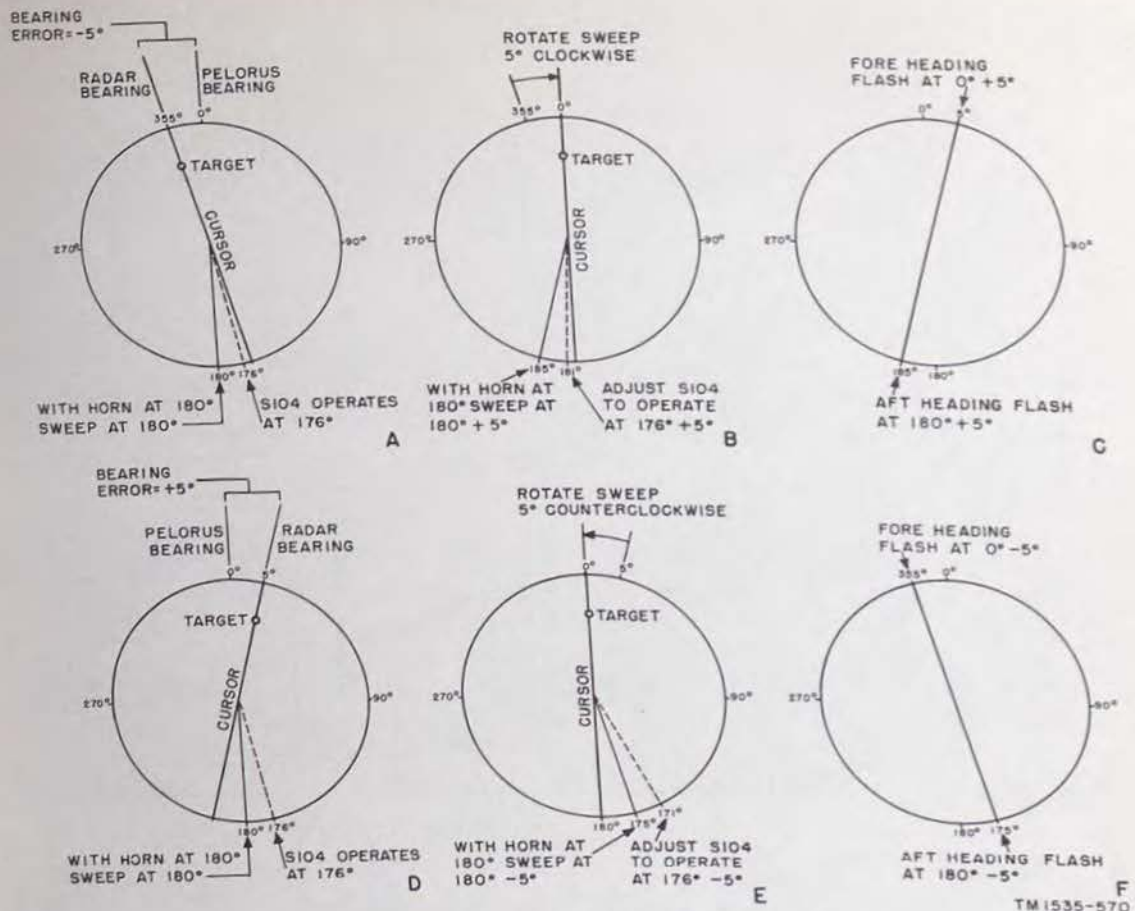

Figure 164. Picture bearing adjustment.
(fig. 164)
*Note.* Though the radar bearing be incorrect, S104 still operates at  $176^\circ$ , and the antenna horn and the PPI sweep are alined at the  $180^\circ$  point (A and D, fig. 164).
*i.* Relocate the synchro alinement cam so that when it is rotated clockwise the sweep will be at  $176^\circ$  plus or minus the error noted. If a dead ahead target originally appeared on the PPI at the  $355^\circ$  point ( $-5^\circ$  error), synchro alinement cam switch S104 should operate at  $176^\circ$  plus  $5^\circ$  or at the  $181^\circ$  point (B, fig. 164). If a dead ahead target originally appeared on the PPI at the  $5^\circ$  point ( $+5^\circ$  error), synchro alinement cam switch S104 should operate at  $176^\circ$  minus  $5^\circ$  or at the  $171^\circ$  point (E, fig. 164).
*l.* Note position of heading flashes. They should be incorrectly placed by the amount the bearing was corrected (C and F, fig. 164). Correct heading flashes by following the instructions given in the following paragraph.